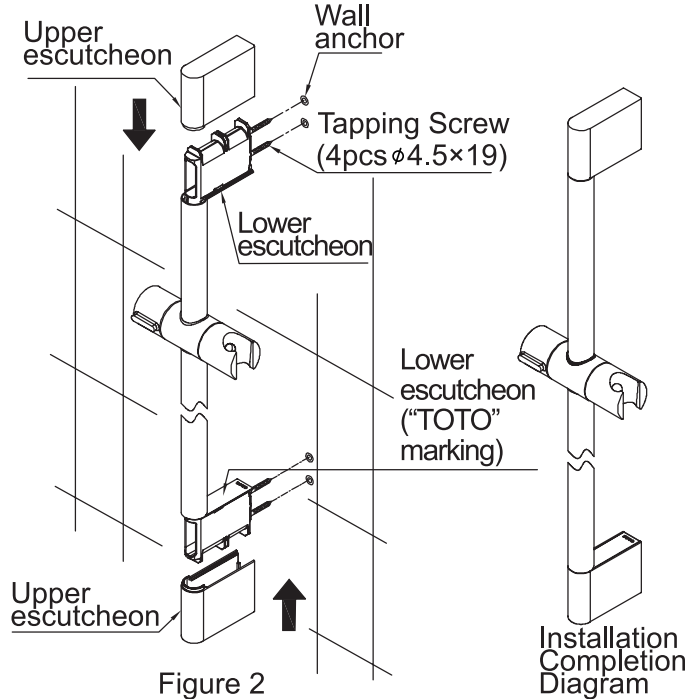

Figure 2
2. 如图2, 将滑动式淋浴支架组装起来, 固定座与杆的缺口要充分卡紧, 用自攻螺钉将上、下两端的固定座固定在墙上, 用螺丝刀拧紧; (注: 由于塑料材质, 注意力度, 以免损坏固定座) 按图示方向将两个上装饰盖与固定座充分卡紧, 完成产品安装。
- 注意: ①安装前请确保墙面平整, 务必仔细确认好两固定座间的距离。
②安装或拆卸时不要划伤电镀表面。
③滑动座不可装反。(手柄在左侧, 旋钮紧锁时手柄扭朝向自己)
④安装前要确保下装饰盖与固定座充分卡紧, 带"TOTO"字样的下装饰盖要安装在下面的固定座上。
2. As shown in Figure 2, assemble the slide bar, clamp well the notches of the bracket and slide bar, then fasten the fastened brackets at the upper and the lower ends with tapping screws, and screw in with a screwdriver. (**Note: As the fastened brackets are made of plastics, be sure to operate gently to prevent from damaging the brackets.**) As shown in the figure, clamp well the two upper escutcheons with the fastened brackets to finish the product installation.
- ① Before installation, please ensure that the finished wall surface is flat, and be sure to check the distance between the two fastened brackets.
- ② Do not scratch the chrome plating in the process of installation or disassembly.
- ③ Do not install the slide seat wrongly. (Handle on the left; rotate the handle toward user when fastening.)
- ④ Before installation, be sure to fully clamp the lower escutcheon with the fastened bracket. The lower escutcheon having "TOTO" should be installed onto the lower fastened bracket.